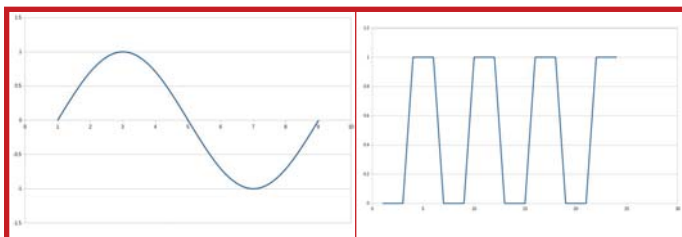

Figure 1: A sinewave. Most DMMs will correctly read the average voltage here. **Figure 2:** Many DMMs will have difficulty reading the average voltage here.
Almost all multimeters can measure “alternating” (AC) and “direct” (DC) voltages. However, many multimeters can’t correctly display DC voltage in the AC mode because of the simplified measurement circuit. Most all DMMs can’t display AC voltage properly while in the DC mode either. Additionally, if the waveform being measured is not a true sine wave, the meter will often display wrong values. **Figure 1** is an example of a sine wave, while **Figure 2** is an example of a more complex waveform. Most DMMs would correctly read the average value of the waveform in Figure 1 as 0.707V.